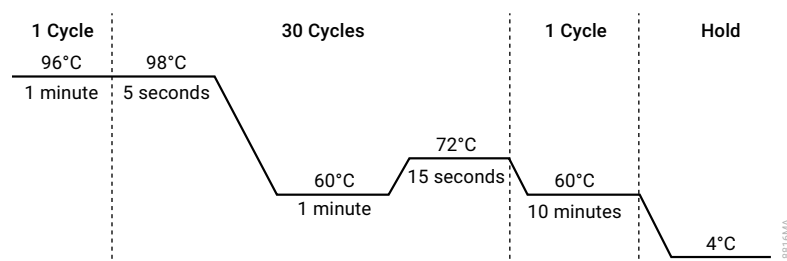

Figure 1. The thermal cycling protocol for the ProFlex® PCR System.
2. Select and run the protocol provided below and in Figure 1. The total cycling time is approximately 70 minutes.